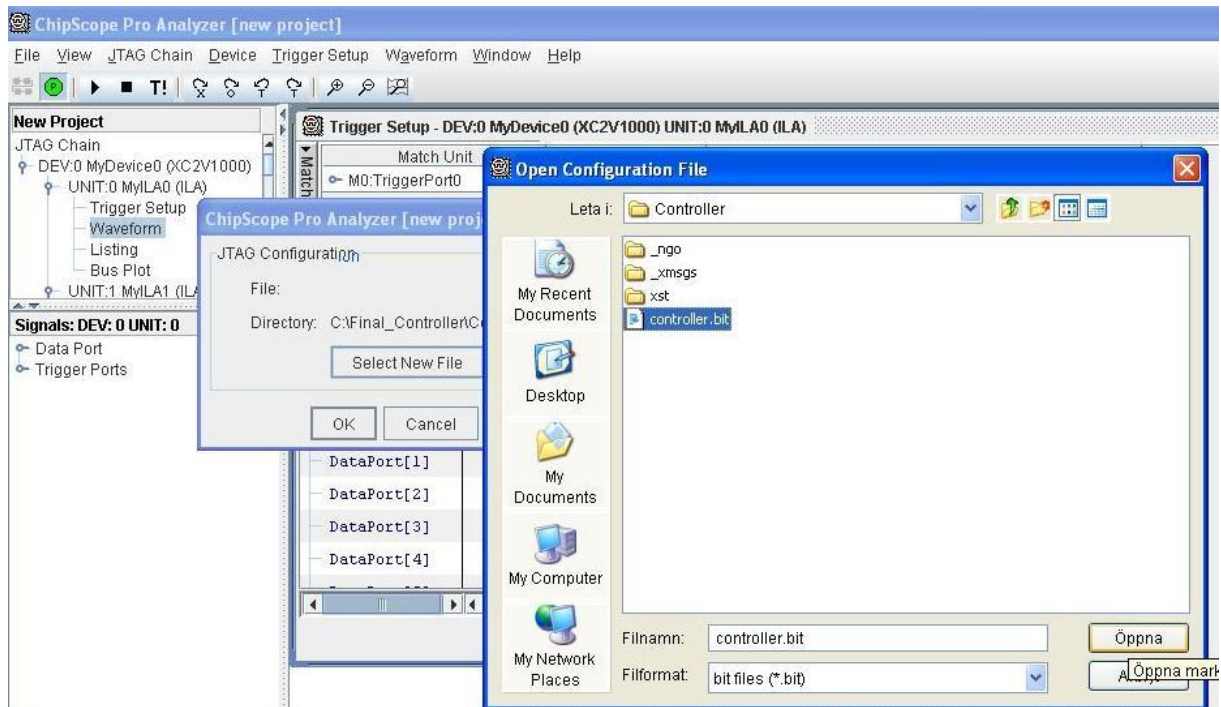

Fig 4.7: Open Configuration File
5. Now click **open** to download the bit file as shown in Fig 4.7.